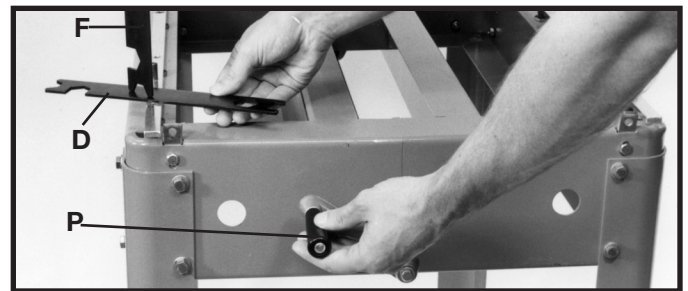

Fig. 21
5. Using wrench (D) Fig. 21 as a feeler gage, lower the track arm assembly by turning handle (P) until wrench (F) just touches wrench (D). **IMPORTANT:** Do not raise or lower track arm any further until table brackets are adjusted.